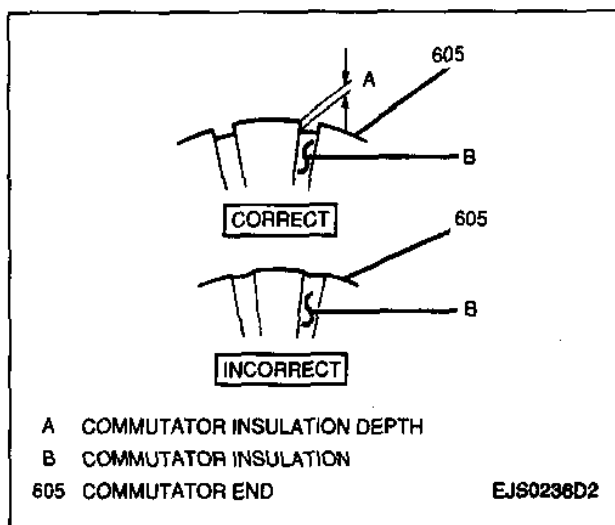

Figure 23—Measure Commutator Insulation Depth
- Commutator insulation depth (Figure 23). Standard commutator insulation depth is 0.5 to 0.8 mm (0.020 to 0.031-inch). If insulation depth is less than 0.2 mm (0.008-inch), replace the armature.